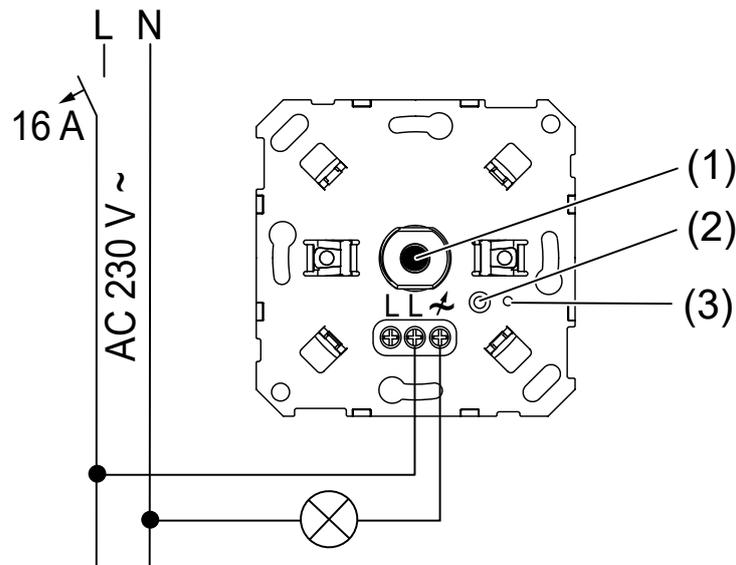

Figure 1: Connection diagram
- Connect the dimmer as shown in the connection diagram (see figure 1).